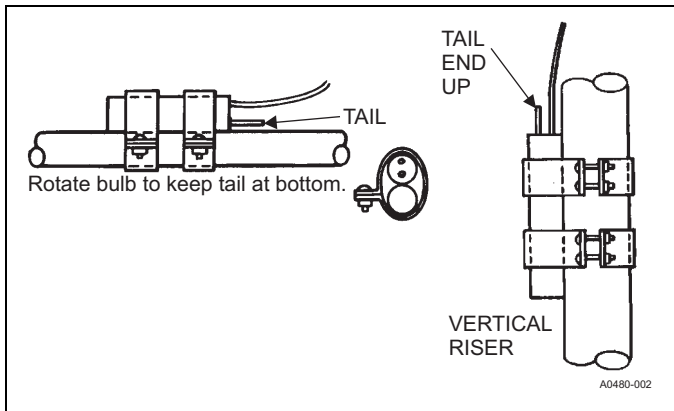
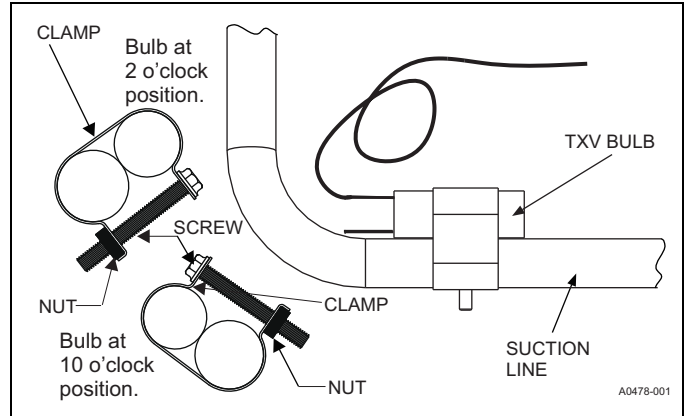

FIGURE 2: Correct Bulb Locations
FIGURE 3: Clamp Attachment for 1TVM (Option 1)
7. Install the TXV bulb to the vapor line near the equalizer line, using the bulb clamp(s) furnished with the TXV assembly. Ensure the bulb is making maximum contact. See Figure 2 for proper bulb location. See Figure 3 for clamp assembly on 1TVM valve.